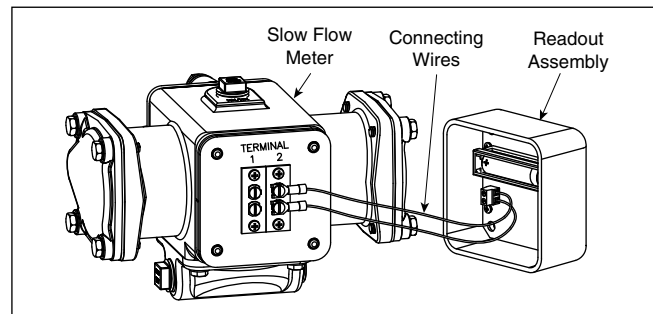

Figure 5 - Mounting the Intrinsically Safe Readout to the Meter with Terminals
3. For digital meters with barrier plate (see Figure 5):